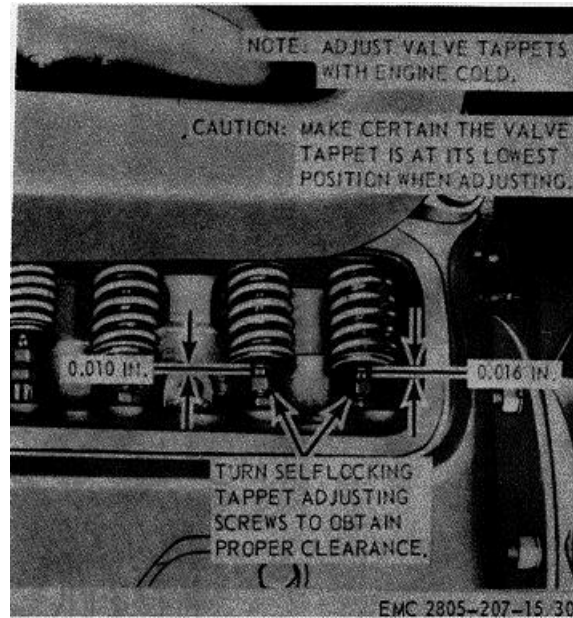

Figure 3-48. Valve tappet adjustment.
*b. Valve Tappet Adjustment.* Adjust valve tappet clearance as illustrated in figure 3-48.